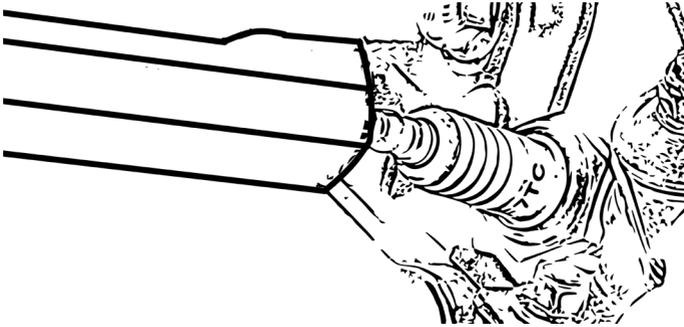

Figure 32
- Loosen the spark plug using the spark plug wrench, Fig. 32.